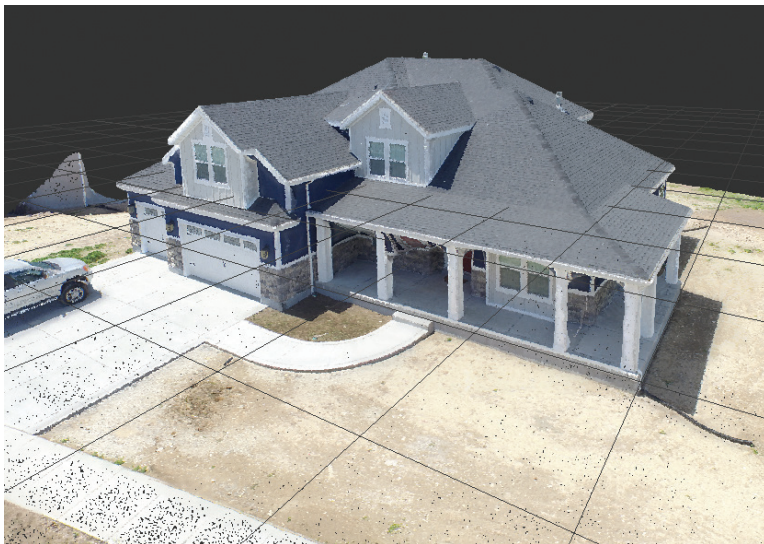

Figure 2: Drone data capture using ReCap photo
**ReCap 360** – Unlock the power of advanced measurement, organization, and collaboration tools. Also transform photos to 3D models with ReCap 360 Photo. The model below (Figure 2) was created from still shot photos from a DJI drone and imported into ReCap 360. No additional work needed, and this is a quick example of the power of ReCap 360.